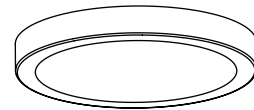

fig. 3
3. Follow 3N1 downlight installation instructions to complete installation. (fig. 3)